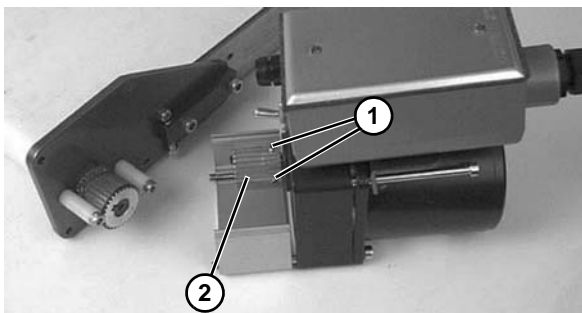

Figure 58
4. Loosen set screws (**Figure 58, item 1**) and remove drive pulley (**Figure 58, item 2**).
5. Replace drive pulley (**Figure 58, item 2**) on new gearmotor and tighten set screws (**Figure 58, item 1**) to 33 in-lb (3.7 Nm).